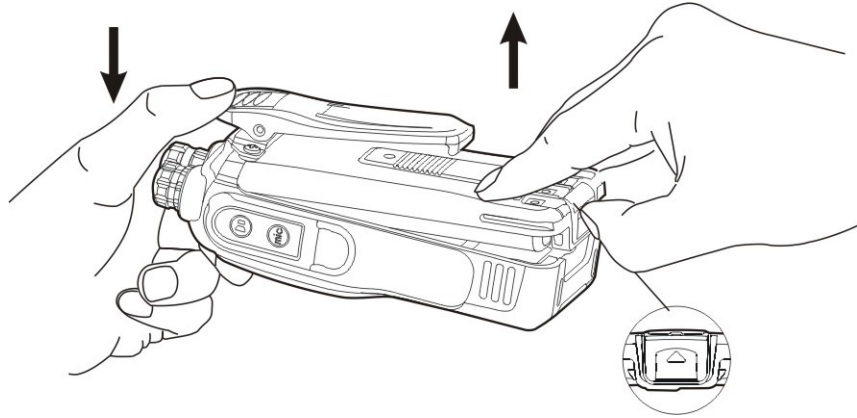

Figure 1
- Turn off the radio. Hold the upper side of the radio and press the belt clip until it tilts. Push the battery latch upwards along the slot of the battery latch at the bottom of the battery. See figure 1.